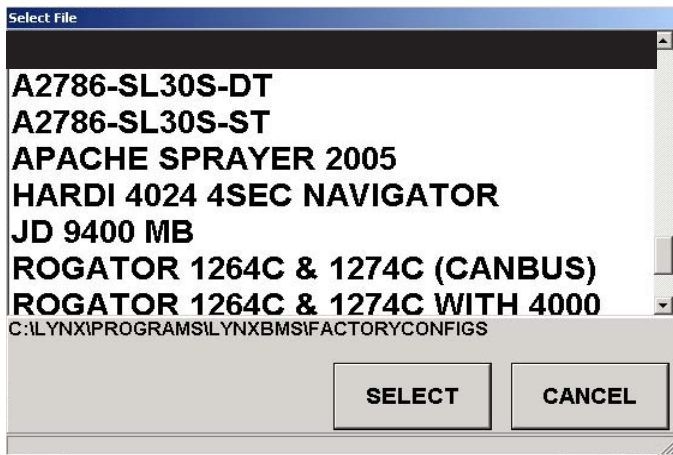

Figure 7-2. Select File Window
The *Select File* window (Figure 7-2) will be displayed.
2. Check to see if your Sprayer or TPA Sprayer kit is listed on the list shown in the *Select File* window (shown in Figure 7-2)
4. Press **Select** (Figure 7-2 on Page 7-3), to load the Sprayer configuration
3. Press the **Cancel** button (Figure 7-2 on page 7-3).